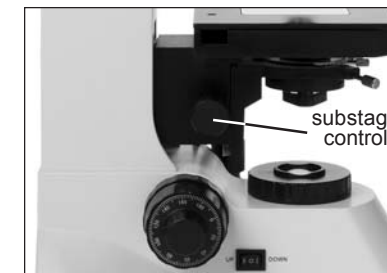

Figure 11
15. Adjust the substage control so that the substage assembly is in the full downward position (figure 11).